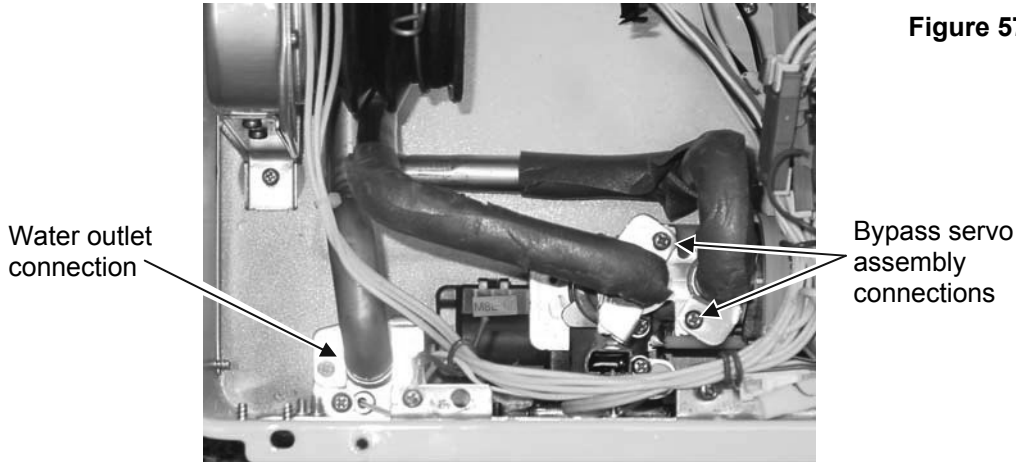

Figure 57
Disconnect Water Lines (Figure 57)
26. Install the largest O-ring (included in kit) over the water outlet tube and the two smaller O-rings (included in kit) over the bypass servo tubes. (Figure 57)
Connect Water Lines (Figure 57)